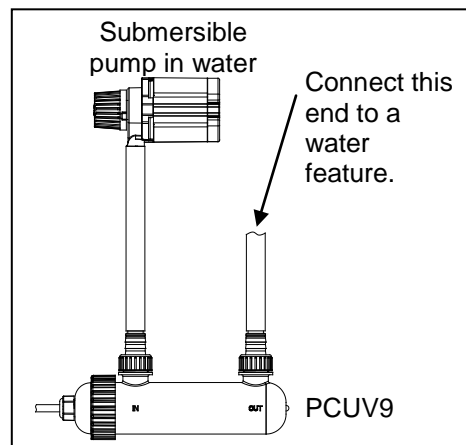

Fig. 4
4. Connect tubing to the outlet of the PCUV9. The other end can be connected to a spitter, waterfall, or any other water feature for your pond. Fig. 4